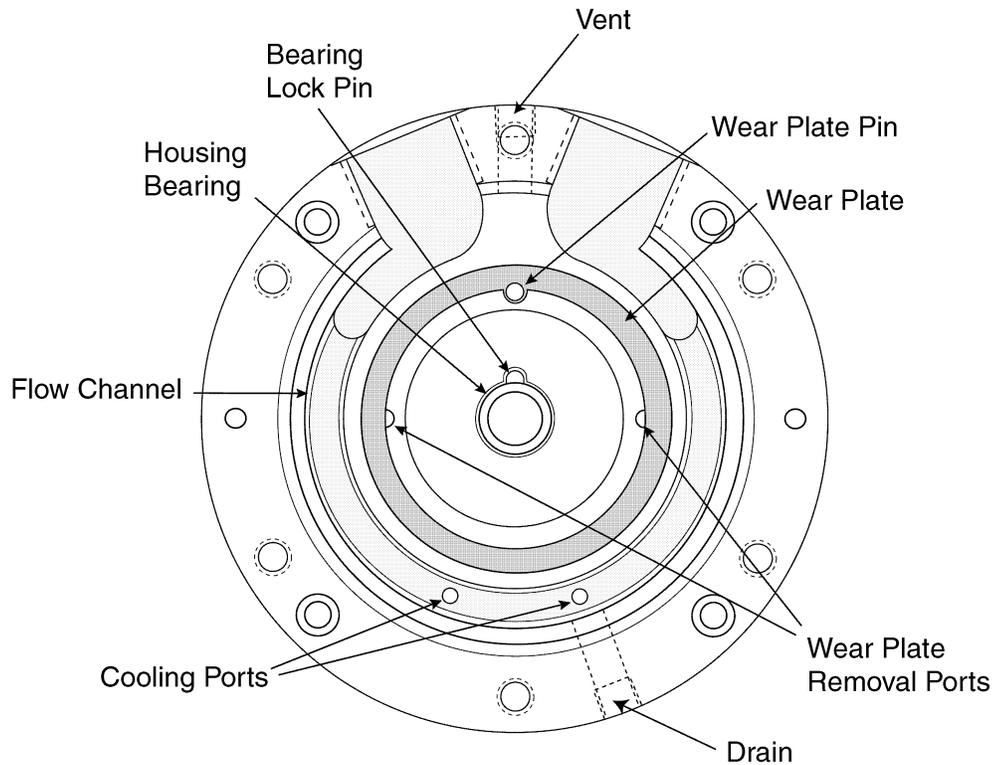

Figure 4
4. Drain the containment can through the rear housing drain plug (item 27) (refer to *Figure 4*).
5. Remove the cover bolts (items 15) and remove the front cover (item 2) by carefully withdrawing it straight back to avoid damage as the drive shaft (item 4) is withdrawn from the cover bearing (item 9).
6. The two housing pins (items 13) should remain in place in the rear housing (item 1).
7. Remove the thin plastic shims (item 3), if any, between the cover and the housing. (The standard shim is plastic. Metal shims are used at higher temperatures.)
8. Remove the rear housing screws (item 26) and separate the rear housing (item 1) from the casing (item 20). This will require physical force to overcome the magnetic attraction between the drive and driven magnet assemblies. Do not pry on one edge, but carefully withdraw it straight back to avoid damage. The magnets are fragile and easily damaged by rough handling. Two people may be required to separate the magnets safely.
9. Use a small screwdriver to remove the retaining ring (item 14) from the impeller assembly (item 6) shaft at the rear of the driven magnet assembly (item 18) and withdraw the driven magnet assembly (item 18) from the impeller assembly shaft, taking care to retain the magnetic coupling drive key (item 8).
10. The spool is removed by removing the motor bolts (item 23) and withdrawing it back from the motor.
11. Remove the retaining ring (item 14) at the rear of the rear housing (item 1) from the impeller assembly (item 6) shaft.
8. Remove the rear housing screws (items 26) and separate the rear housing (item 1) from the casing (item 20). This will require physical force to overcome the magnetic attraction between the drive and driven magnet assemblies. Do not pry on one edge, but carefully withdraw it straight back to avoid damage. The magnets are fragile and easily damaged by rough handling. Two people may be required to separate the magnets safely.
9. Use a small screwdriver to remove the retaining ring (item 14) from the impeller assembly (item 6) shaft at the rear of the driven magnet assembly (item 18).
10. The containment can (item 19) can be withdrawn from the casing (item 20). The containment can “O”-ring (item 28) will normally remain in position on its rabbet on the back of the rear housing (item 1).
1. Two small opposed holes are provided in the housing and cover adjacent to the outer surface of each wear plate (refer to *Figure 4*). To remove the wear plate, insert a small tool in each hole and pry evenly between the two to facilitate plate removal without breakage.
4. Insert the replacement plate and press lightly all around to ensure uniform bottoming and to avoid breaking the carbon wear plates, which are relatively brittle. Ensure that the anti-rotation pin (item 12) remains in place; replacement of this part is not normally required. This part is identical to that used for both bearings in the Size 10 pump, but in the Size 12 pump, the bearing pin is different from the wearplate pin.